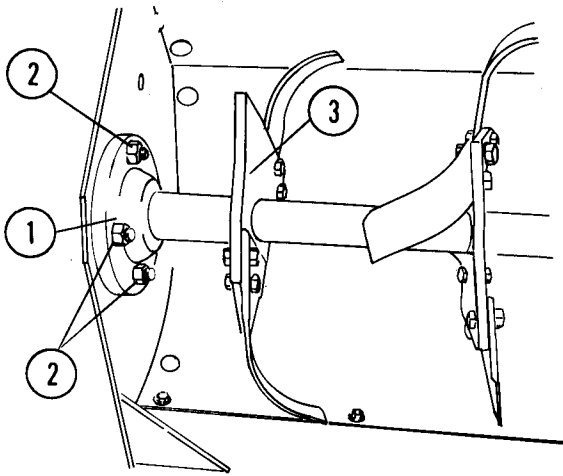

Fig. 22 — Tine Shaft (L.H. Side)
floor and remove 2 outboard tine halves on left-hand side, Figure 22.
13. Remove 4 lock nuts holding the left-hand dust cap and slide dust cap back out of the way. Note that there are 4 spacers under the dust cap and that they must be placed in the same position during reassembly, Figures 22 and 23.